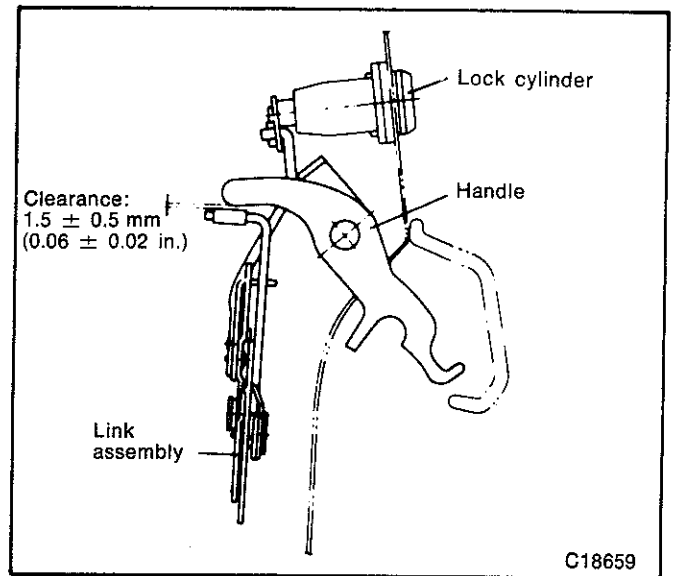

Fig. 29—Adjusting tailgate handle to link assembly clearance
- (1) Apply grease to the rotating and sliding components of the tailgate handle, link and latch assemblies.
- (2) Adjust the tailgate handle to link assembly clearance to 1mm to 2mm (0.040" to 0.080") as shown in Fig. 29.
- (3) When installing the link assembly ensure that the L.H. and R.H. latch assemblies operate simultaneously.